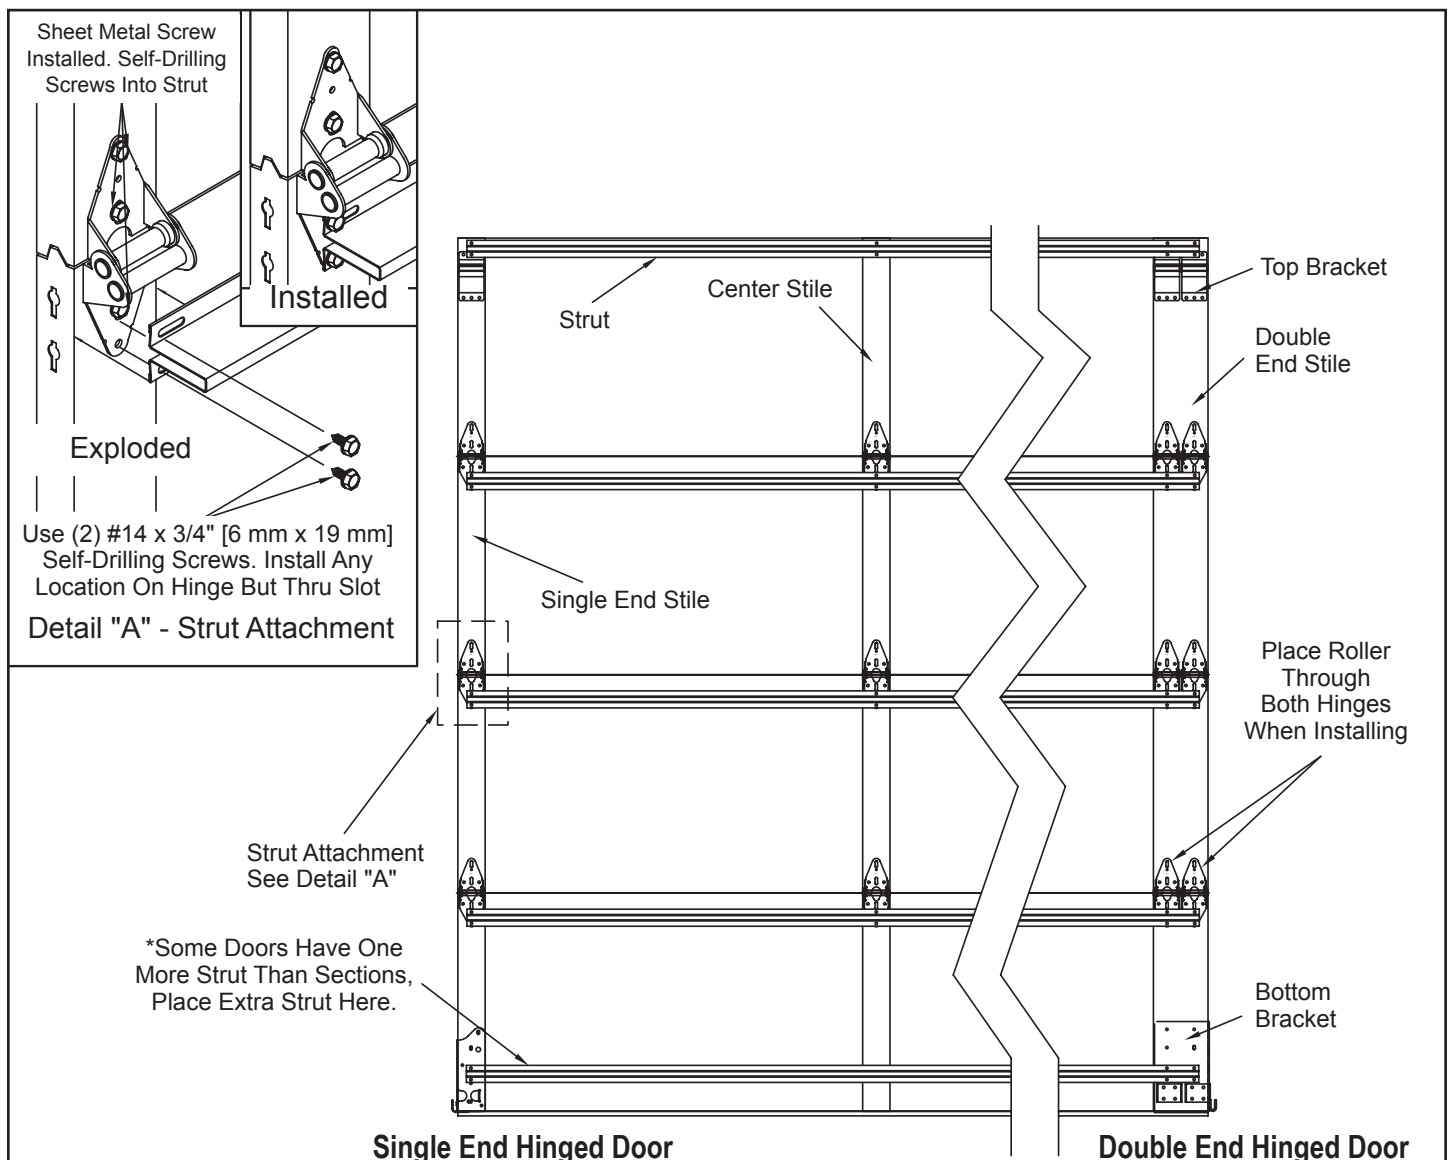

Fig. 6-S U-STRUT ATTACHMENT
With section face down on saw horses, place strut at the top of the sections and center it (Fig. 6-S).
Step 1: Horizontal track install. Horizontal track follows the pitch of the roof line. An extension angle is mounted, level, just above the radius of the track. Attach horizontal track to commercial flag bracket using two 1/4" x 5/8" [6 mm x 16 mm] track bolts and flange nuts. Attach extension angle to horizontal track using 3/8" x 1-1/4" [10 mm x 32 mm] slotted truss head bolt & nut. Attach extension angle to commercial flag bracket using a 3/8" x 3/4" [10 mm x 19 mm] carriage bolt & flange nut. Temporarily set back hangs for horizontal track or rig a temporary rope to support back of horizontal track. (Fig. 6-T)
Step 3: Spring Installation. Install end bearing plates as shown. (Fig. 6-T) Refer to "Spring Installation" for additional instruction.